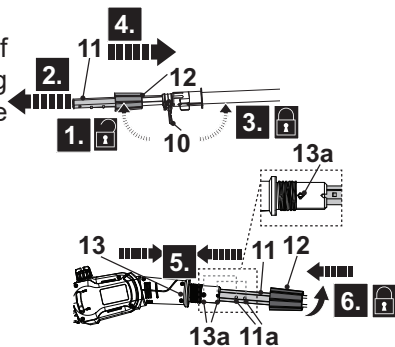

Fig. 2
1. Loosen the locking lever (10) (Fig. 2, step 1) and pull out the pole extension (11) (Fig. 2, step 2), then fasten the locking lever (10) (Fig. 2, step 3).
2. Move the locking sleeve (12) back onto the pole extension (11) (Fig. 2, step 4).
3. Then align the pole extension (11) with the pole support (13) and insert it. Make sure the pins (11a) snaps in the bores (13a) for reliable connection (Fig. 2, step 5).
4. Fit the locking sleeve (12) on the thread of pole support (13) and tighten the locking sleeve (12) clockwise to secure the connections (Fig. 2, step 6).